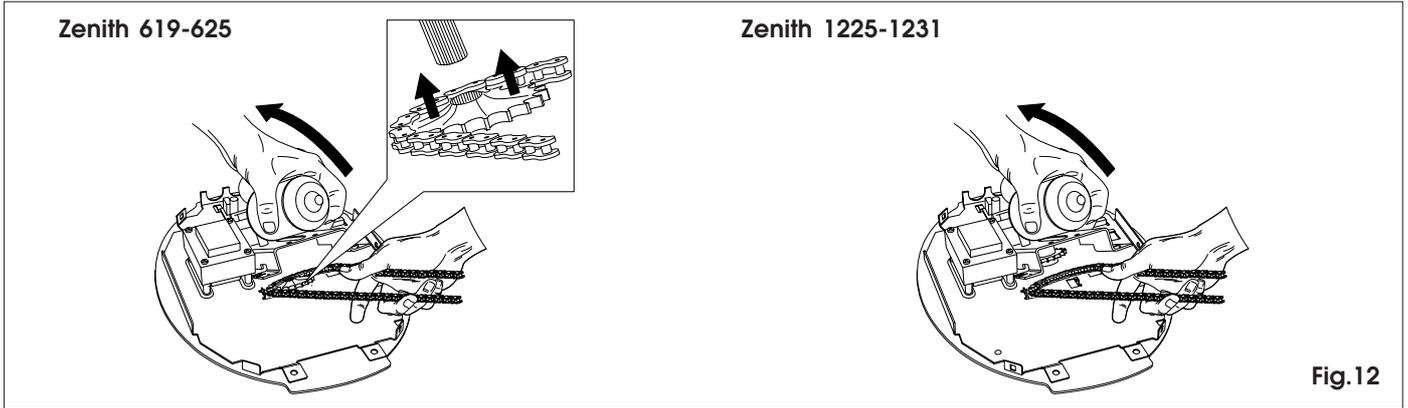

Fig.12
6.7 Lift up the motor unit, taking care not to damage the electronic equipment, couple the pinion gear to the chain and fit it in the motor shaft (fig.12).